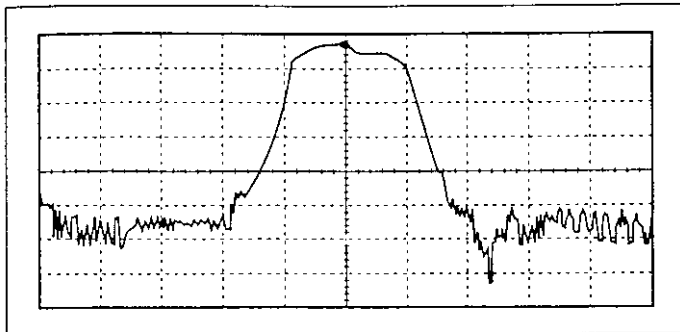

Figure 2. RF adjustment.
2. With RXEN set to **On** and IF control set to **Out**, adjust trim capacitors C302, C303, C353, and C346 to mid-position. Adjust C326 until the oscillator starts (see figure 2).